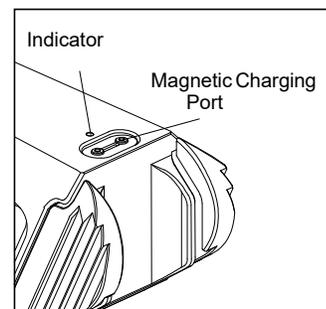

Fig 3
- 2) Connect the USB end of the charging cable to an external USB power source, then attach the other end of the magnetic charging cable to the charging port of the light. (See Fig 3).